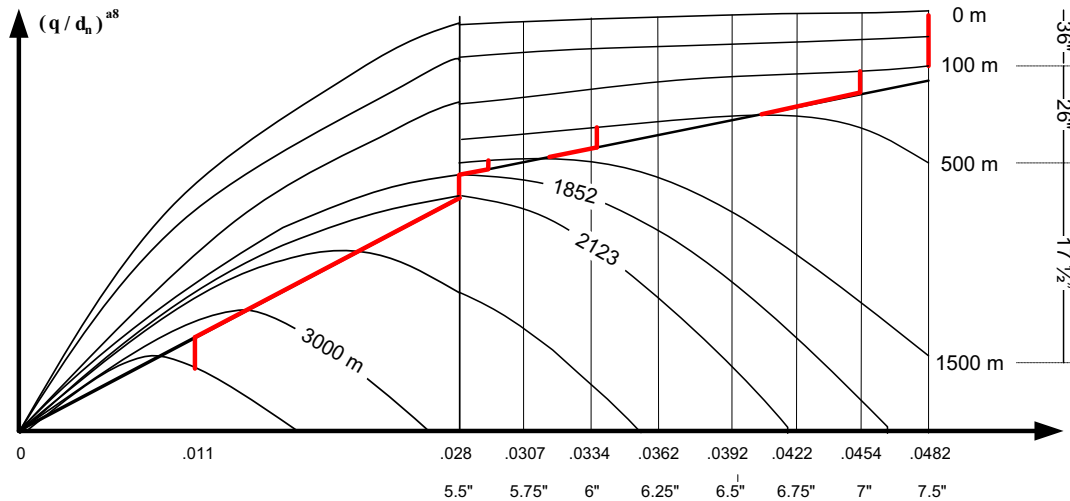

Figure 4-6: Graphical solution.
- d) From Table 4-6 in the Task section above we can see that at a depth between 1 500 and 3 000 m there are two potential options. However, from Figure 4-6 above we already know that while drilling past 1 852 m we enter pump range I, and starts applying the 5 ½ “ liner. We also see that the maximum flow rate of the 5 ½ “ liner is the optimum one for most of its operational time. This has already been shown in task b) above.